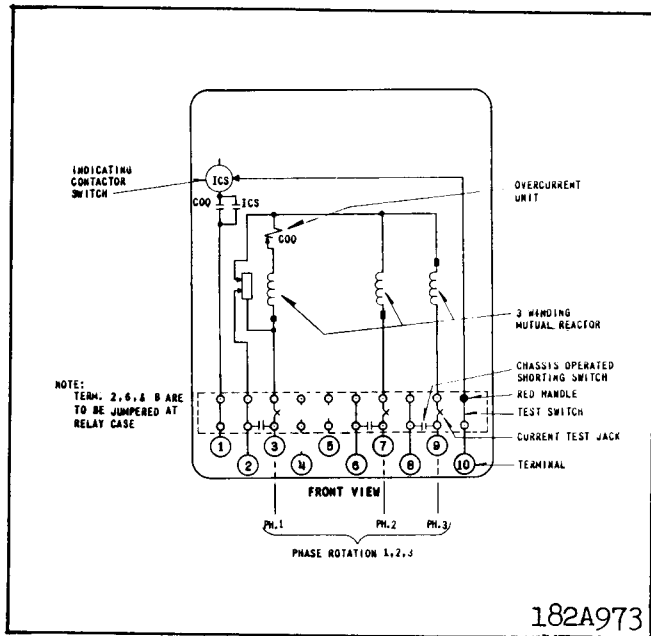
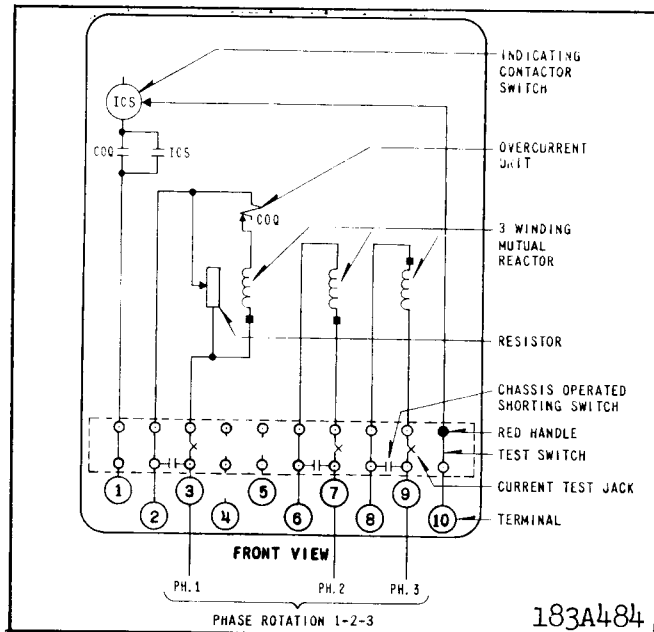

Fig. 2. Internal Schematic of the Type COQ Relay in the FT21 Case - Neutral Formed in Relay.
Fig. 3. Internal Schematic of the Type COQ Relay in the FT21 Case - For Forming Neutral External to Relay.
- e. Now measure the voltage across the resistor. Adjust top filter resistor position until this voltage is 1.73 times the reading from (d) above. (For relays wired per figure 2 connect the voltmeter to switch jaw 3 and to the top filter resistor screw connection (see figure 1). (For relays wired per figure 3 connect voltmeter across switch jaws 2 and 3.)
To eliminate zero sequence response (relays wired per figure 2 only), remove tap screw, and connect per figure 10: Apply $I_x = 5$ amperes; $I_y = 10$ amperes. Measure voltage from terminal 3 to top filter resistor screw connection (see figure 1). Adjust the neutral filter resistor tap until measured voltage is zero.